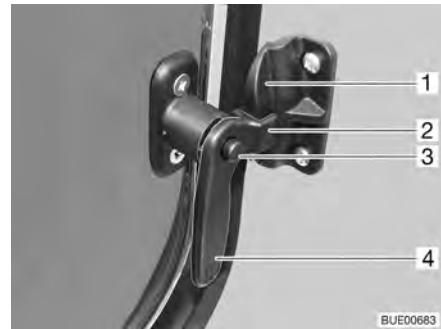

Fig. 30 Window in the conversion door in the "continuous ventilation" position
- Press the safety knob (Fig. 30,3) down and hold it.
- Turn the catch lever (Fig. 30,4) towards the centre of the window.
- Return the catch lever to its initial position. Move the fork (Fig. 30,2) on the catch lever into the window catch (Fig. 30,1).